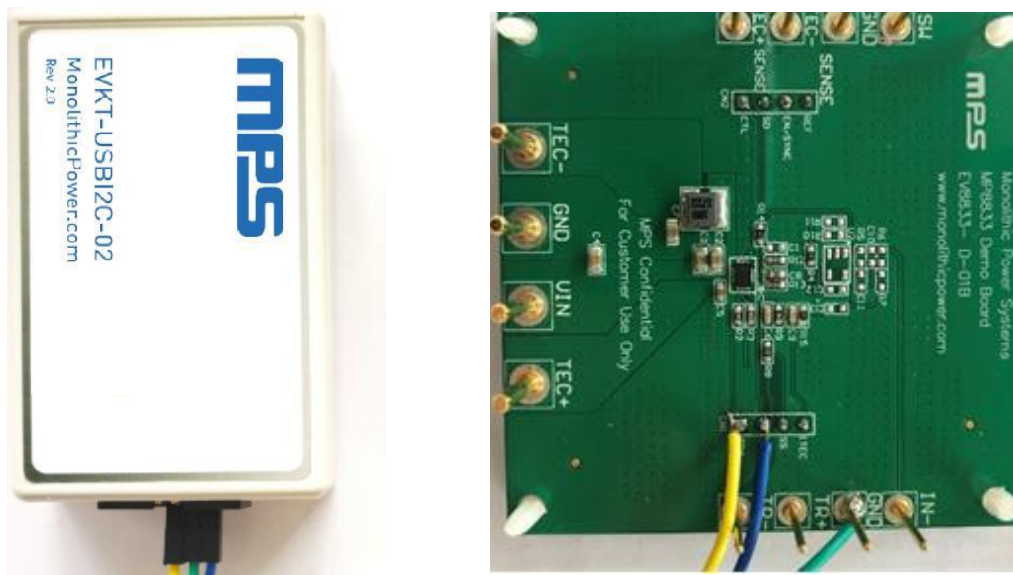

Figure 6: EVB to MPS I²C Communication Interface Wire Connection
2. Connect SCL, SDA, and GND (see Figure 6). Refer to the evaluation board datasheet for further clarification.